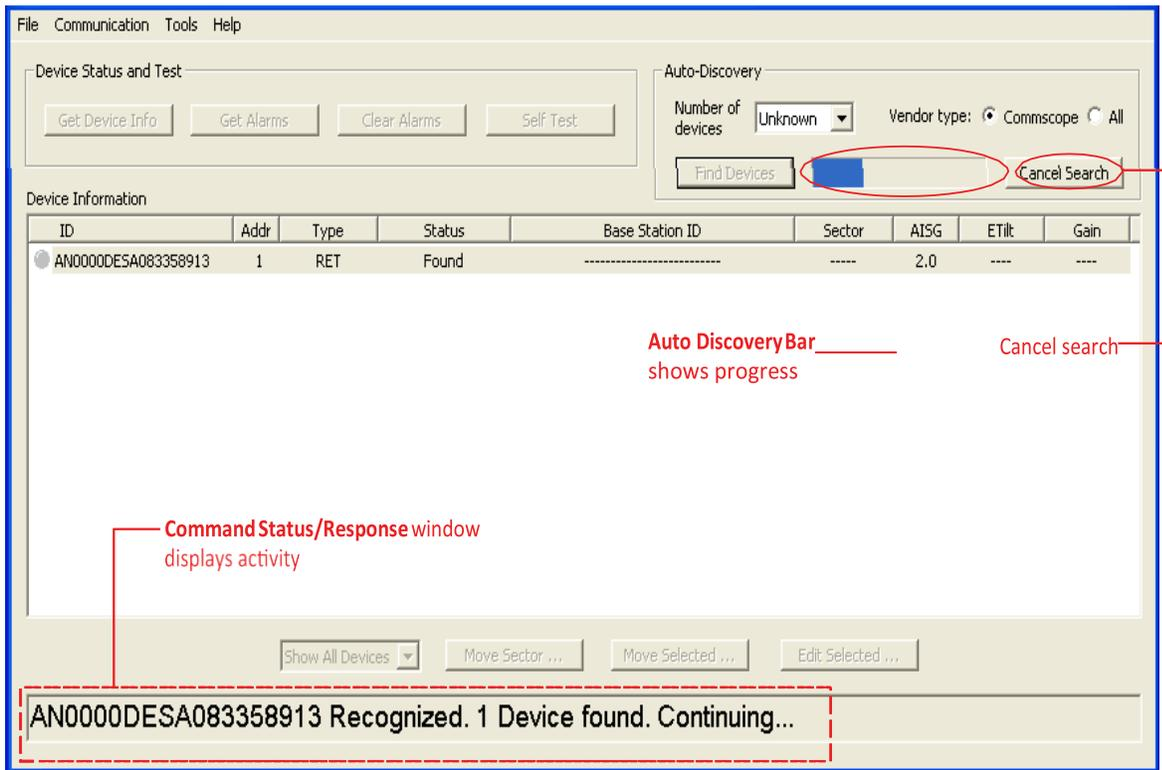

Figure 4-2. Progress Shown During Device Search.
- The **Auto Discovery Bar** (located at the top of the screen) and the **Command Status/Response** window (located at the bottom of the screen) will show the progress/activity during the search (Figure 4-2). As each device is found during the search, the **Command Status/Response** window will show the status of how many devices have been found and the found devices are displayed on screen. Number of devices can be selected for value from 1 to 32 for specific number of devices or “Unknown” for all devices available. Vendor type selection can be for Commscope devices only or all vendor devices including Commscope.
The **Cancel Search** button can be used to halt the device search at anytime except during Firmware downloads. Note that if a device search is halted, a new search can be started. To start a new device search, click on **Find Devices** again (Figure 4-2). If a device search is halted, the devices found will be displayed in the list and proceed to required firmware download followed by device information retrieval.